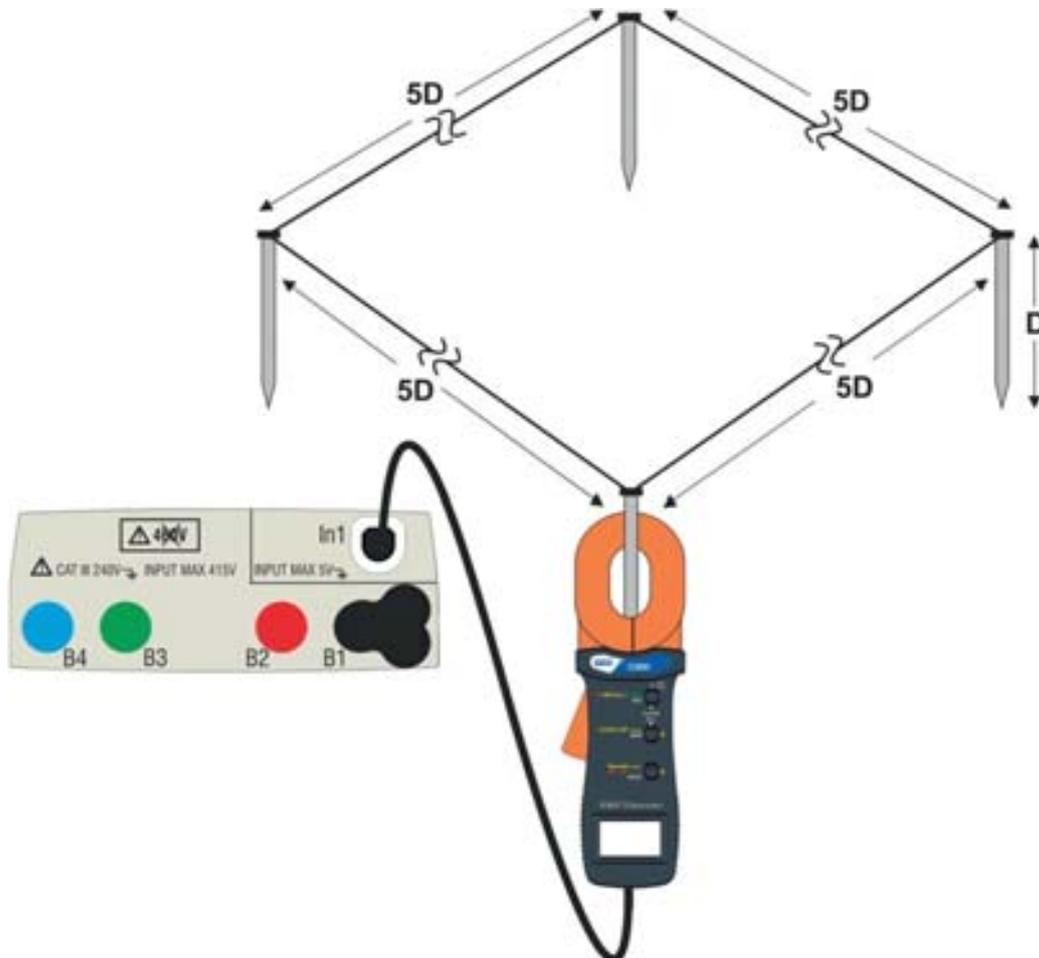

Fig. 32: Resistance measurement of single rods with clamp T2100
The measurement carried out by clamp T2100 can be used to evaluate single rods resistance values within an earth installation without disconnecting the rods, **assuming they do not affect each other** (see Fig. 32).
4. Connect the clamp to the first rod of the earth network considered as shown in Fig. 32. Note the value of the resistance in the  $R$  field and press the icon to insert this value in the calculation of parallel resistance and increase the  $N$  parameter by one unit ( $N=1$ )